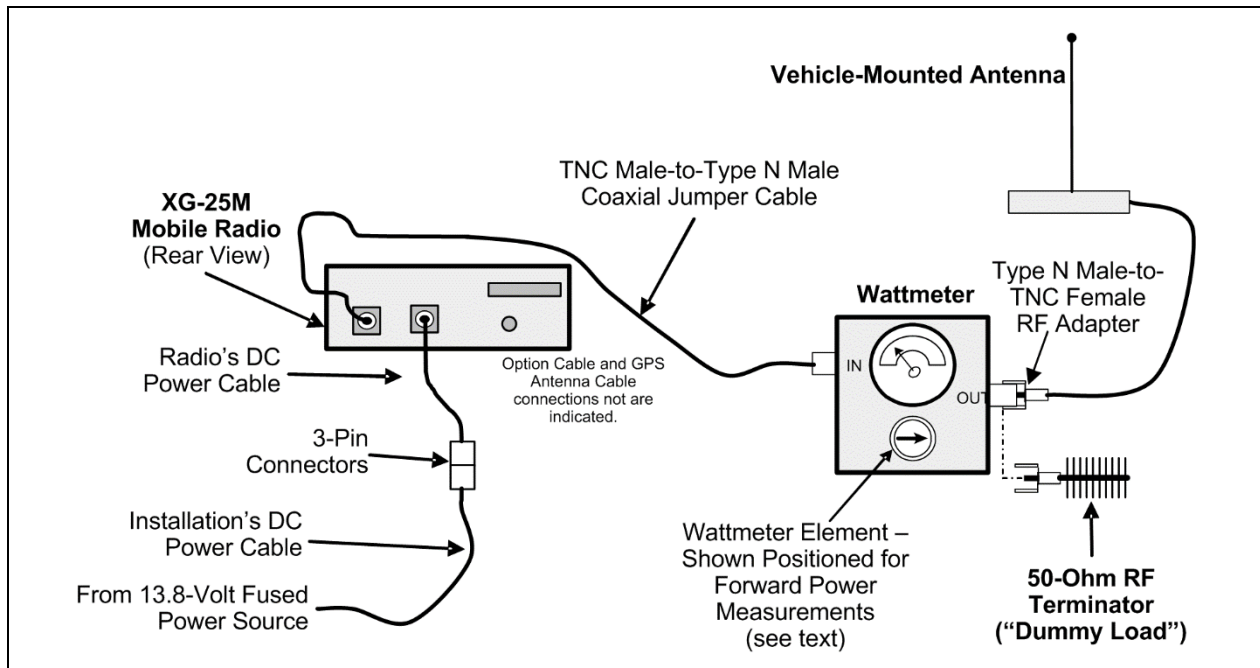

Figure 10-1: Wattmeter Connections for Antenna System Tests
2. Using the Type N male to TNC male RF coaxial jumper cable, connect the radio's antenna connector to the wattmeter's input connector. Refer to Figure 10-1 as necessary.
2. Connect the antenna cable from the vehicle-mounted antenna to the wattmeter as shown in Figure 10-1.